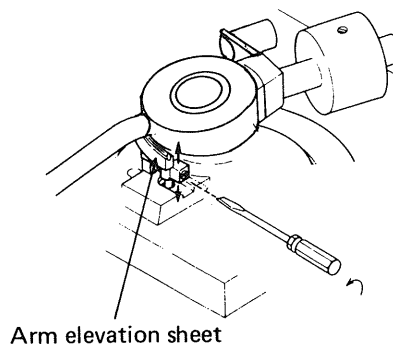

Fig. 4
1. Leave the tonearm in the up position, and adjust the height of the arm elevation sheet so that the gap between stylus tip and record surface is about 10mm. (Fig. 4).